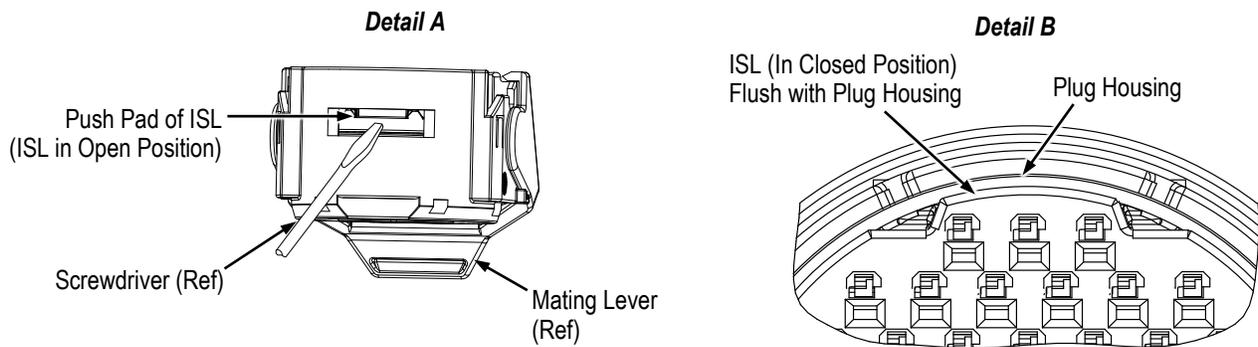

Figure 4
7. After all terminals have been inserted, using a small screwdriver, push the push pad of the ISL (see Figure 4, Detail A) until the ISL moves to the closed position. The ISL is in the closed position when it is flush with the plug housing. See Figure 4, Detail B.